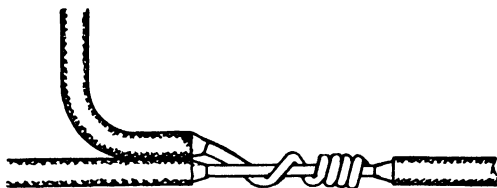

Fig. 56. Tee Tap on Solid Wire
**Tee Tap Splice.** The T-tap splice, Fig. 56, is made by holding the two conductors with one pair of pliers and, with a second pair, wrapping the free end around the conductor. This splice should be soldered and taped as directed for the Western Union splice.